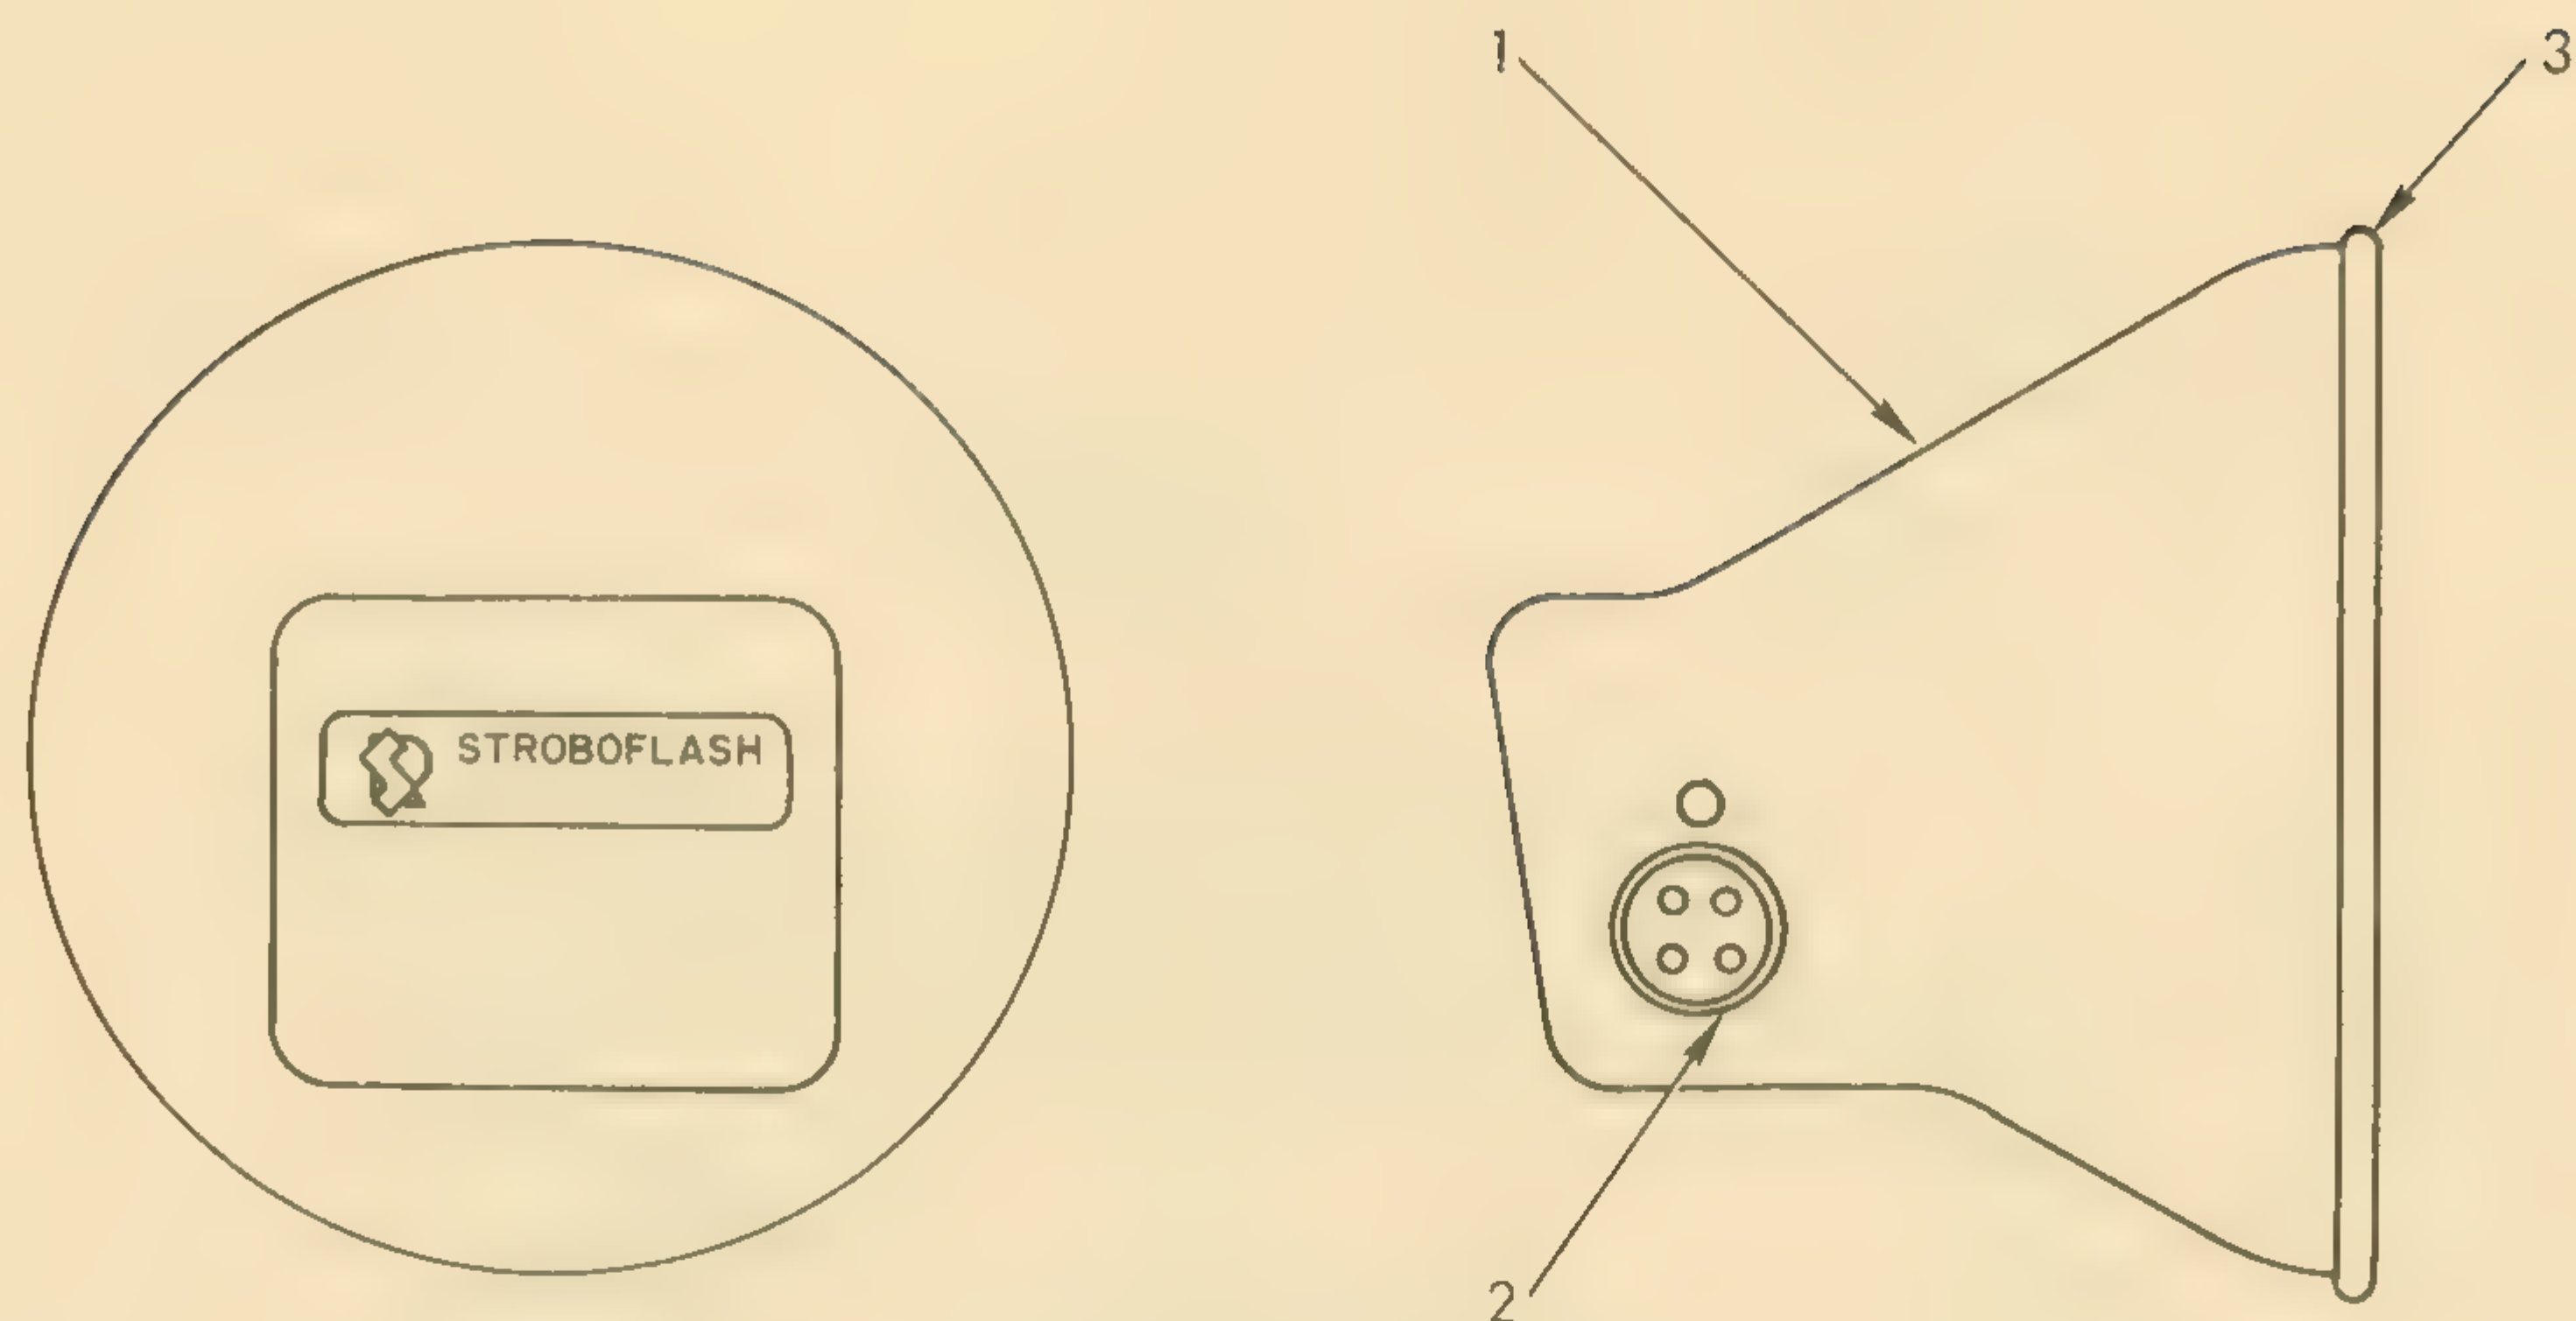

Figure 1. STROBOFLASH LAMP COMPLETE
d. Orient dust shield (2, figure 1) with its small shoulder facing out.